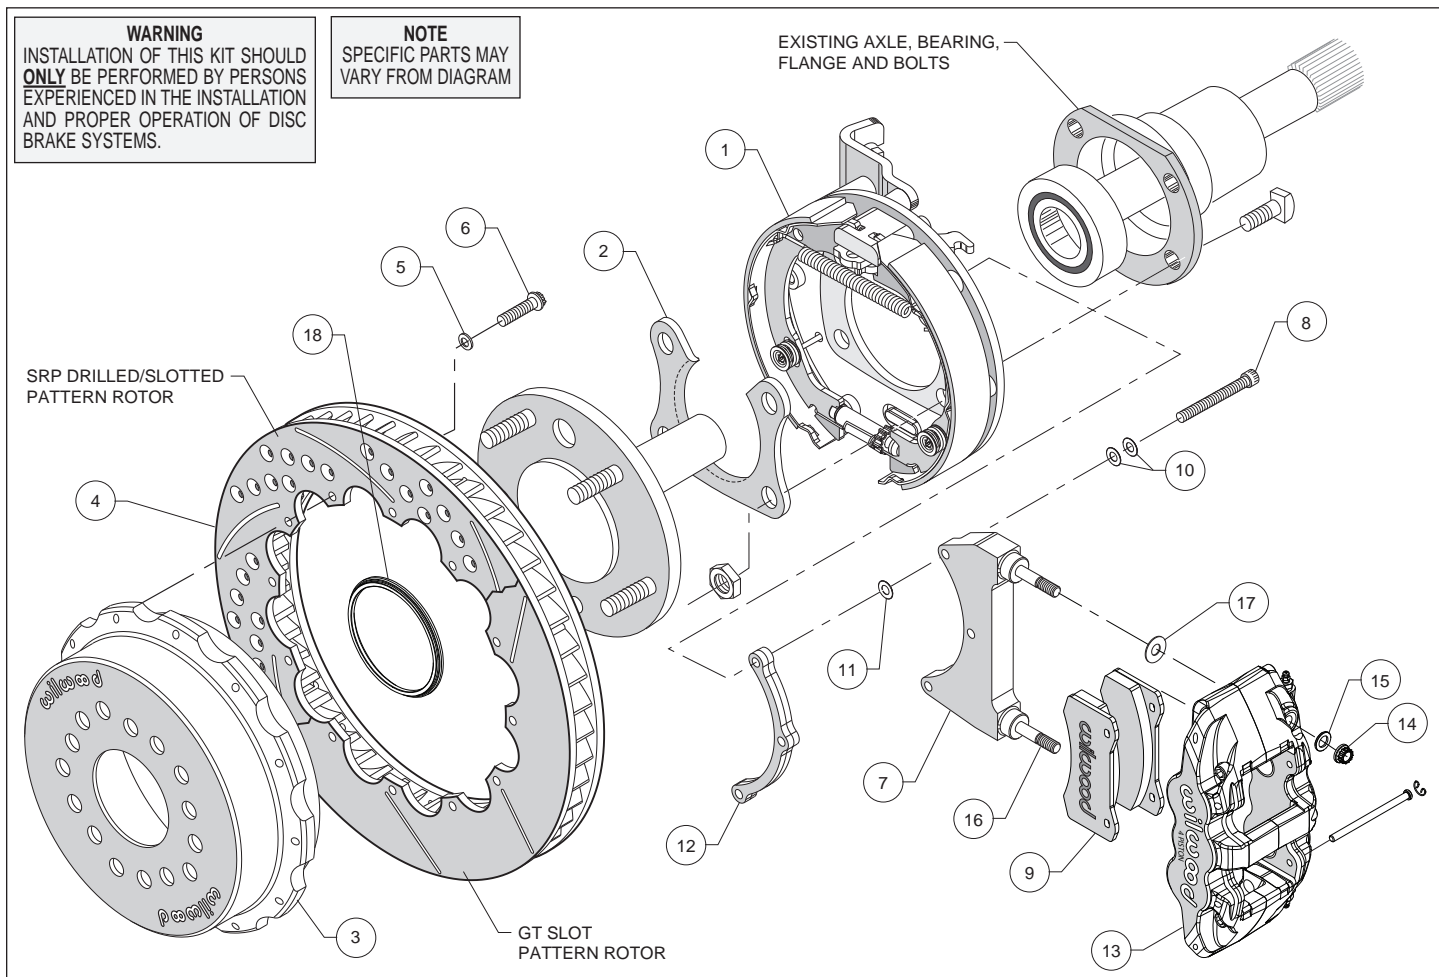

Figure 1. Typical Installation Configuration
- Orient the bracket assembly (1) as shown in Figure 1 and slide it onto the axle. Insert the axle and bracket into the axle housing. Ensure that the bracket assembly backing plate fits flush against the axle housing flange.
- Install the bearing retainer (2) with the opening pointing upward and the lip facing inward (toward the bearing), as shown in Figures 1 and 4. Secure retainer and bracket assembly to the axle housing flange using the Original Equipment Manufacturer (OEM) bolts and nuts, Figure 1. Apply red *Loctite*® 271 to the OEM bolt threads and torque to OEM specifications.
- Slide the rotor registration adapter (18) onto the axle register on the axle flange with the smaller O.D. facing toward the rotor/hat (3). Align the correct hole pattern in the hat with the stud pattern on the axle flange. **NOTE:** Some OEM and aftermarket axles come with stud sizes larger than 0.50" diameter. Verify stud size and have a qualified machine shop drill the hats to the correct size, if necessary. Slide the hat/rotor assembly (3 and 4) over the wheel studs covering the bracket kit assembly (1) and against the axle flange face. Check to be sure the hat seats squarely against the hub. Install three lug nuts (finger tighten) to keep the rotor/hat assembly in place while continuing with the installation.
- **NOTE:** Please reference the caution statement at the beginning of the assembly instructions. The caliper mounting bracket assembly (7) should be installed first with clean, dry threads on the mounting bolts (8). Install the bracket from the rear side of the bracket kit assembly (1) by sliding bolt (8) through two flat washers (10) bracket (7), shim washer (11) and finally through the spacer (12), see Figure 1. **NOTE:** End of bolt should not exceed inside face of insert. The bracket must tighten squarely against the back side of the bracket kit assembly (1). Inspect for interference from casting irregularities, machining ridges, burrs, etc. Use one thin shim (11) between the bracket (7) and spacer (12) during initial trial fitting.
- Lubricate caliper mounting studs and nuts with lightweight oil. Install one washer (17) over each pre-installed stud (16) on the radial mount bracket (7). Slide the caliper (13) in place over the studs and rotor, then install the washer (15) and lock nut (14) to hold the caliper in place. The caliper bleed screws should be pointing up. Snug the lock nuts (14) and check that the rotor (4) is centered in the caliper (13). Add or subtract .015" shims (11) as necessary between the caliper mounting bracket (7) and the spacer (12) to center the caliper (9).
- Remove the two pad retaining pins from the caliper (13) by carefully popping out the pin retaining clips and sliding out the pins. Insert the brake pads (9) into the caliper from the bottom, Figure 1. With the friction material facing the rotor, secure the brake pads in place with the pad retaining pins and clips. Reinstall the caliper onto the caliper mounting bracket and temporarily tighten the lock nuts. Check that the top of the brake pad is flush with the outside diameter of the rotor. If not, adjust by adding or subtracting shims (17) between the caliper and the bracket.
- Adjust the parking brake shoes outward (using a drum shoe adjustment tool available at your local auto parts store) while spinning the hat (3) until a slight drag is felt against the hat/drum. Remove the lug nuts that were holding the hat/rotor in place. Install the wheel and lug nuts. Check to see that the wheel rotates freely without interference.
- Once all clearances have been checked, remove the wheel, caliper, hat/rotor from the bracket kit assembly (1). Secure the caliper mounting bracket (7) to the bracket kit assembly (1) using red *Loctite*® 271. Torque bolts (8) to 180 in-lb. Reinstall the hat/rotor assembly and again use lug nuts to hold it in place. Reinstall the caliper, torque the caliper nuts (14) to 47 ft-lb.
- **NOTE:** Clevis and cable kits which attach to the parking brake assembly are not included in the Wilwood parking brake kit. Wilwood offers a generic style parking brake cable kit, P/N 330-9371 for this application which can be ordered separately from your local Wilwood dealer or by calling Wilwood customer service at (805) 388-1188.